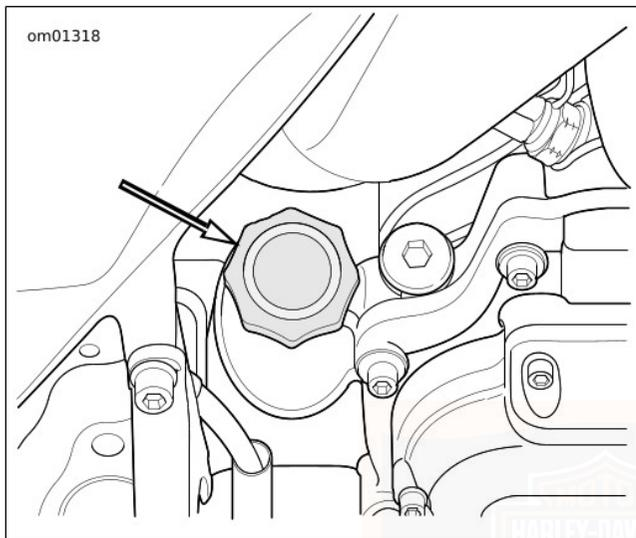

Figure 40. Engine Oil Filler Cap
2. See Figure 40. Remove filler plug/dipstick and wipe off the dipstick. Insert the dipstick and tighten into the fill spout.
3. See Figure 40. Remove filler plug/dipstick and wipe off the dipstick. Insert the dipstick and tighten into the fill spout.